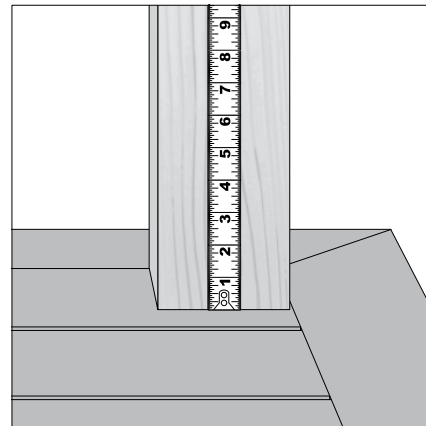

Fig. 1a
- Measure the post height and cut the two-piece, assembled KLEERWrap Post Wrap to the desired length with a reciprocating saw or handsaw (**Fig. 1a & 1b**).